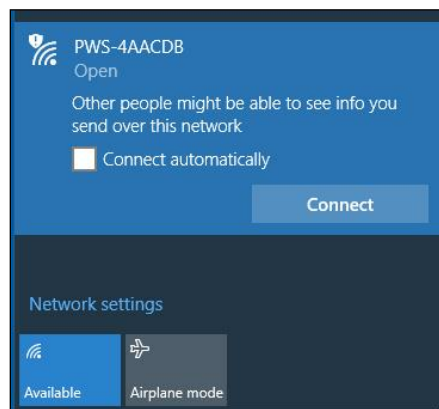

Figure 21
- a) **Example 1: Connect to the console WiFi server with a PC.** Choose WiFi network settings from Windows (or search “Change Wi-Fi Settings” from Windows), and Connect to the PWS- WiFi network, as shown in Figure 21 (your WiFi network name may be slightly different, but will always begin with PWS-).